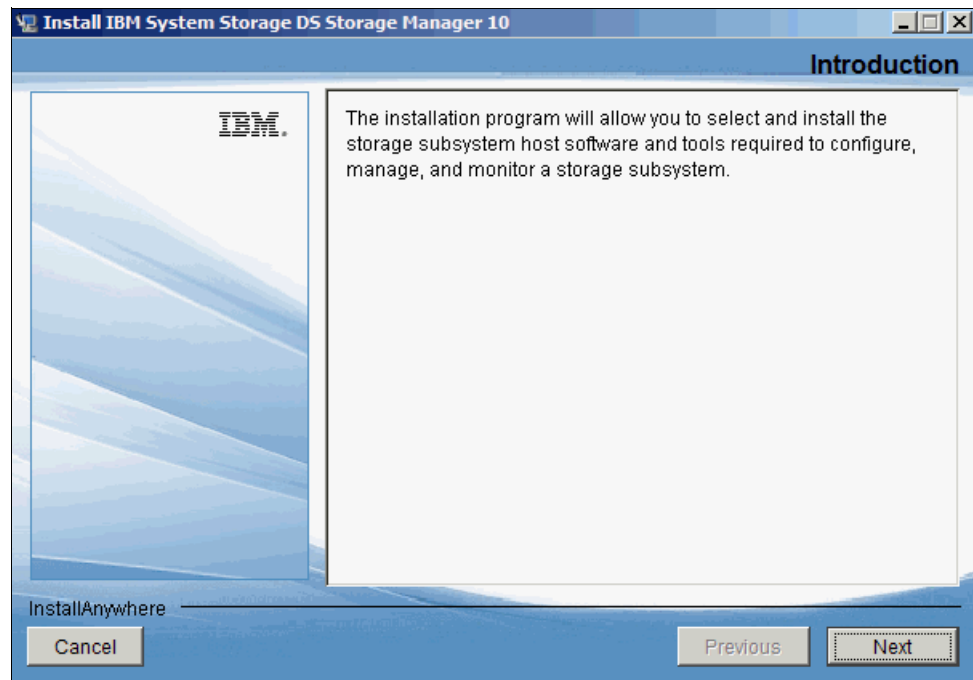

Figure 5-3 IBM DS Storage Manager Introduction
3. Read the introduction and click **Next**, as shown in Figure 5-3.